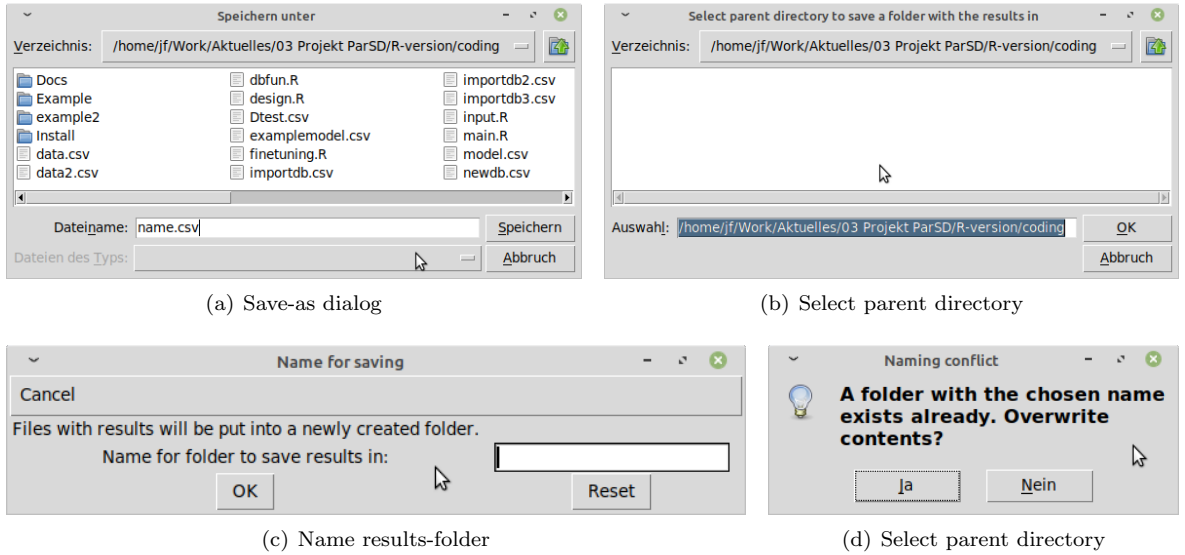

Figure 2: Save results
- recipe, which is a subset database containing the materials used for the present calculation. Has to be saved as CSV file in the Save-As window by adding the file extension to the filename as shown in Figure 2(a).
- batch, which is the table shown in the results window giving the contents of the materials. Has to be saved as CSV file in the Save-As window by adding the file extension to the filename as shown in Figure 2(a).
- model (comparison), which is the lower part of the results-window including information to the model (type and parameters). Has to be saved as CSV file in the Save-As window by adding the file extension to the filename as shown in Figure 2(a).
- graph, as adjusted and displayed by the 'Open/close plot' button. Has to be saved as PNG file in the Save-As window by adding the file extension to the filename (cf. Figure 2(a)).
- complete results (recipe, batch, model (comparison) & plot). In this case, a folder will be created into which the four files will be put. The user is, thus, asked to give the parent folder into which the new results folder should be placed (Figure 2(b)) and then to give a name for the results folder (Figure 2(c)). If a folder with this name already exists, the user is informed but can decide to overwrite the contents (Figure 2(d)).